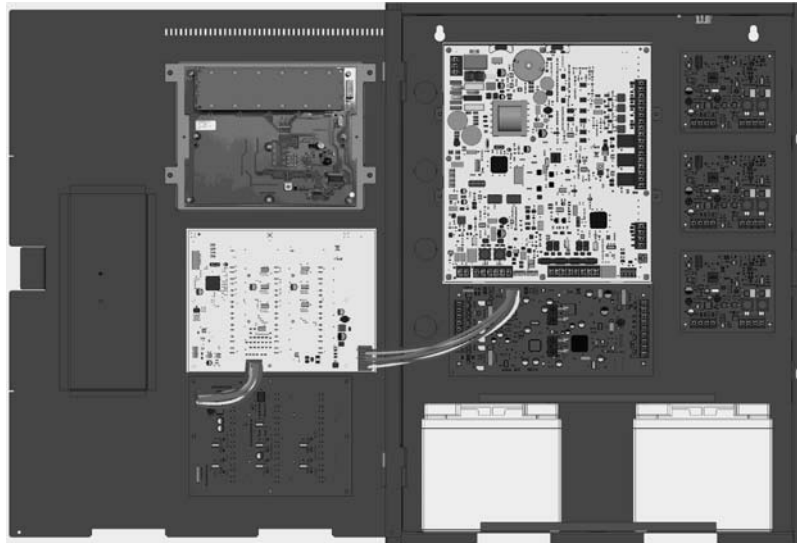

Figure 4-15 Connection between ECS-EMG and One ECS-SW24
4. Install the ECS-SW24 on the six mounting studs located on the inside of the dead front panel. See Figure 4-15 for IFP-300ECS or Figure 4-17 for IFP-2100ECS.
5. For the IFP-300ECS, connect one end of the wiring harness (P/N 130398 supplied) to the ECS-EMG and the other end to the ECS-SW24 as shown in Figure 4-15.